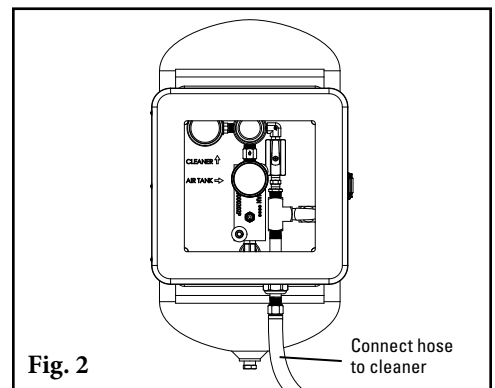

Fig. 2
2. **Run hose from the hose barb on the Control Box to the belt cleaner.** Use the supplied hose barb t-fitting to split the hose for cleaners that use dual air tensioners at the cleaner. Connect the hose to the air tensioners (Fig. 2).